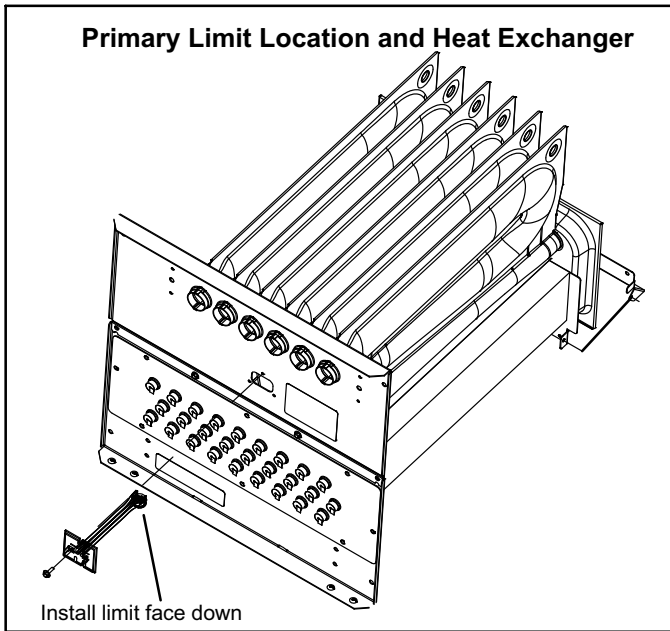

FIGURE 7
2. Heat Exchanger (Figure 7)
3. Primary Limit Control (Figure 7)